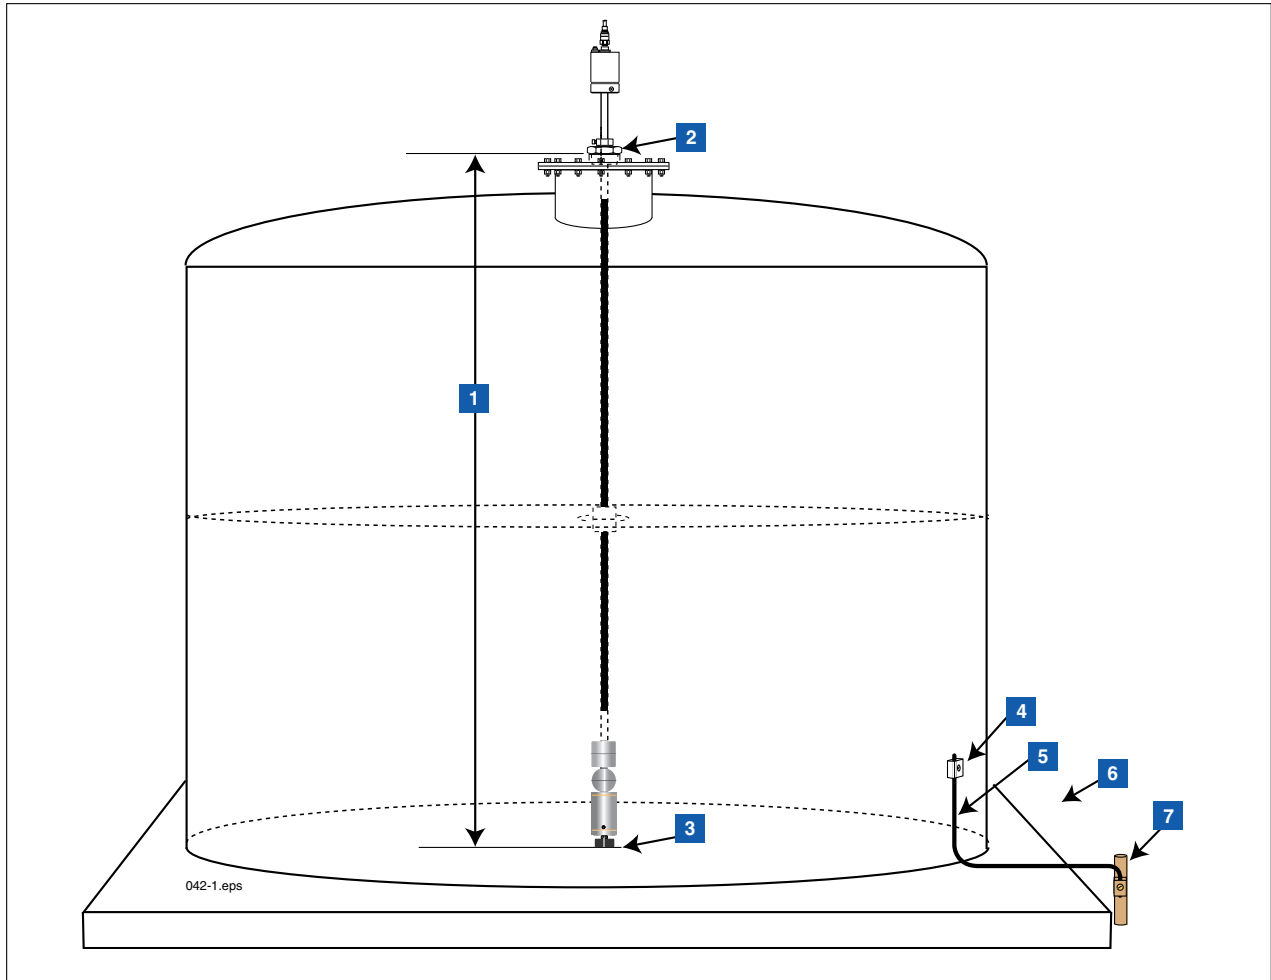

Figure 5. Mag-FLEX Probe Installation Parameters - Steel Tanks
7. AST grounding cables and Earth electrodes according to NFPA70, NFPA30A and local codes (ref. example in Figure 5).
7. AST grounding cables and Earth electrodes according to NFPA70, NFPA30A and local codes (ref. example in Figure 5)
Before ordering the Mag-FLEX Probe, an accurate dimension for item 1 in Figure 5, must be obtained. Measure internally the insertion length of Item 1 from the 1½” entry point to the bottom of the tank. Probe length for ordering purposes = measured length of Item 1+ 10 inches.
LEGEND FOR NUMBERED BOXES IN Figure 5
Before ordering the Mag-FLEX Probe, an accurate dimension for item 1 in Figure 5, must be obtained. Measure internally the insertion length of Item 1 from the 1½” entry point to the bottom of the tank. Probe length for ordering purposes = measured length of Item 1 x (0.96) + 10 inches.